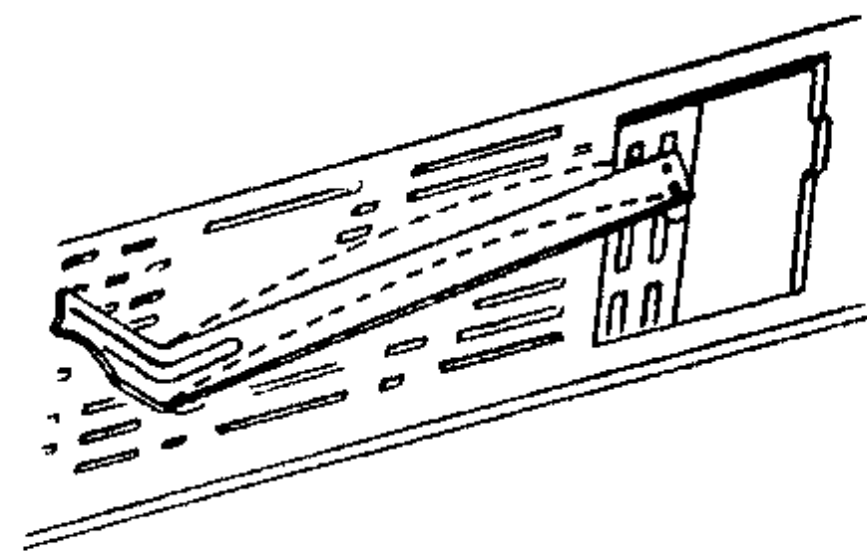

Figure 4 - Repairing Loose Sliding Door
4. *Loose Sliding Door.* If sliding door is too loose it may be pushed open by the moving cattle so that it will be impossible to load the car. Increase friction, when necessary, by bending the cattle stop bar so that it rubs against wall of car. (See Figure 4)